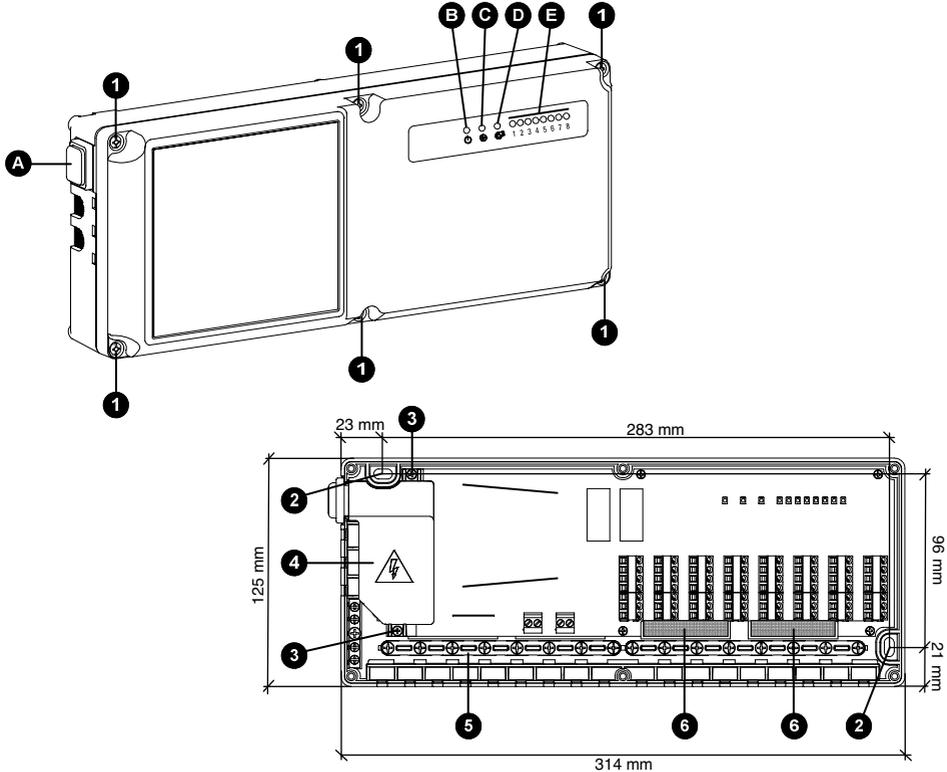

Fig. 1: Internal view and parts.
Green LED: power supply 'ϕ' (Ⓓ Fig. 1)
Red LED: pump output activation 'Ⓢ' (Ⓒ Fig. 1)
Red LED: boiler output activation 'Ⓡ' (Ⓓ Fig. 1)
Actuator outputs state LEDs '1 .. 8' (Ⓔ Fig. 1)
ON / OFF illuminated switch (Ⓐ Fig. 1)
The illuminated switch at the lower left hand side of the wiring centre will isolate the whole of the wiring centre except the parts under the plastic cover, item Ⓐ, Fig. 1, to allow access to thermostats and actuators for testing and fault finding during installation.
- Remove the 6 screws labelled as ❶ in Fig. 1 then remove the front plastic cover.
- Fix the device base to the wall by using the two screw holes labelled ❷ in Fig. 1.
- Remove the 2 screws labelled as ③ in Fig. 1 then remove the plastic cover labelled as ④ in Fig. 1.
With the help of a screwdriver, remove the plastic knock-outs from the base, see item ⑥, Fig. 1. Cables can then be taken through the backplate to the terminal connections.